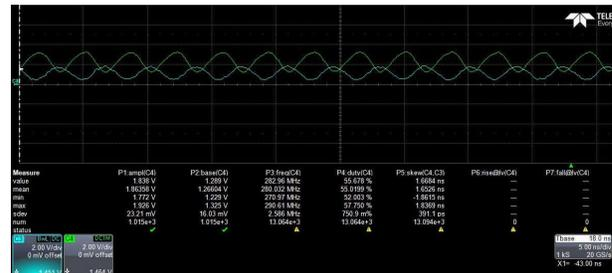

Figure 3-10. Competitor Waveform (15 pF 1.8 V to 3.3 V Up Translation at 280 MHz, 25°C)
- Figure 3-10 shows how competitor can fail (1.8 V blue inputs, 3.3 V green outputs) with unstable VOH (as low as 1.9 V) and unstable VOL (as high as 1.3 V) for invalid logic switching levels.